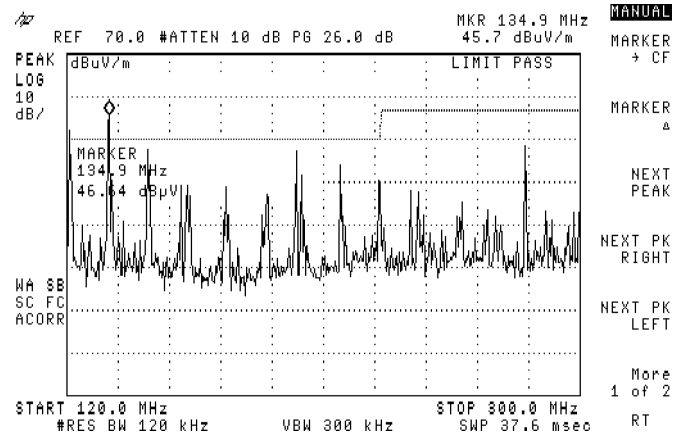

Figure 3-59. Using Peak Search
- Press the **PEAK SEARCH** front-panel key. See Figure 3-59.